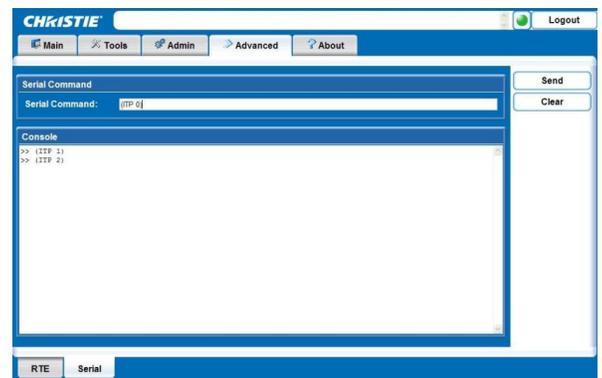

Figure B-20 Add Serial Command
2. Click **Send** to add the serial command. See *Figure B-20 Add Serial Command*.